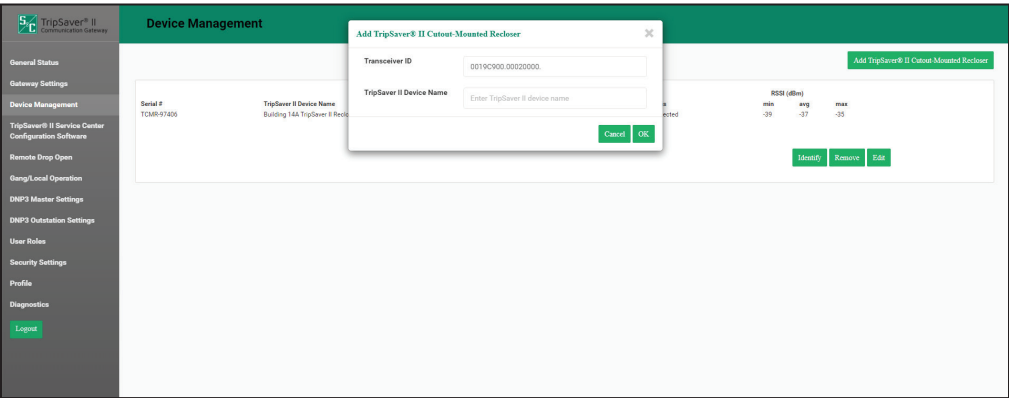

Figure 10. The *Device Management* screen.
- STEP 4.** Navigate to the *Device Management* screen. See Figure 10.